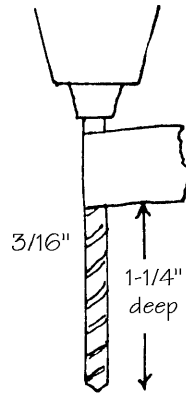

FIG. 13
- \_\_\_17. Now you can drill the holes for the tuning pins and hitch pins. A drill press would be helpful on this step, but not absolutely necessary. You can achieve good results with a hand electric (or cordless) drill, if you work carefully. Try your best to hold the drill straight (vertical) as you work. Wrap a piece of masking tape around the drill bit to mark the correct depth, as shown on the next page. (figs. 13 and 14)